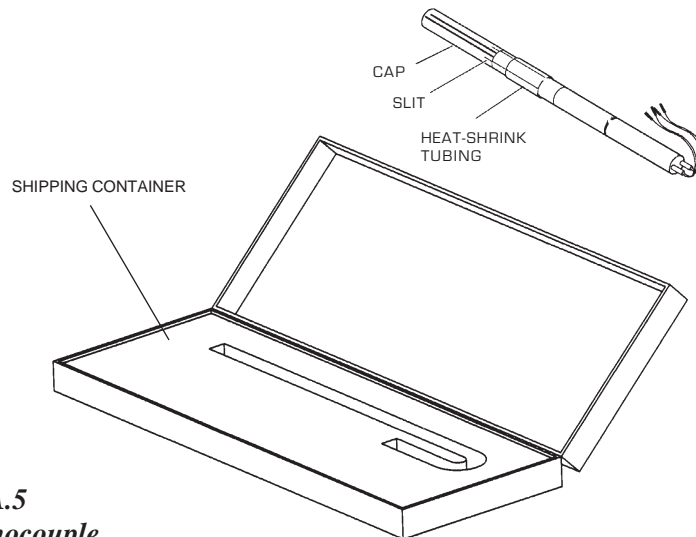

Figure DTA.5
1. Remove the thermocouple assembly (Figure DTA.5) from its plastic shipping container and check it for damage. If the assembly is damaged, notify TA Instruments immediately.